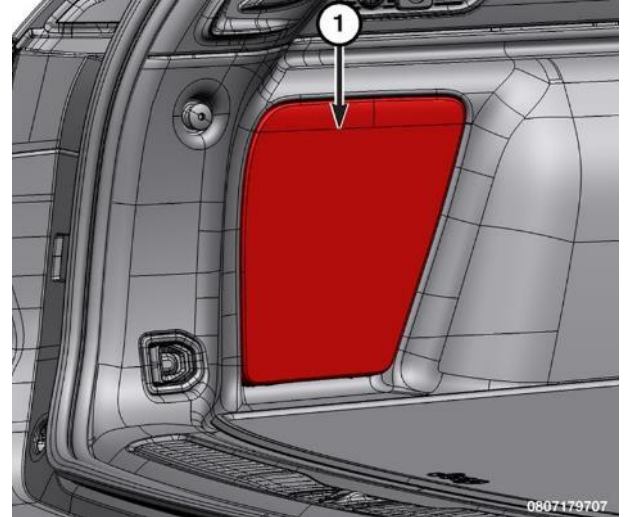

Figure 17 – Rear PDC Access Panel
- p) To completely power down the 12-volt system, remove the rear access panel (1) to expose the rear PDC (Figure 17).